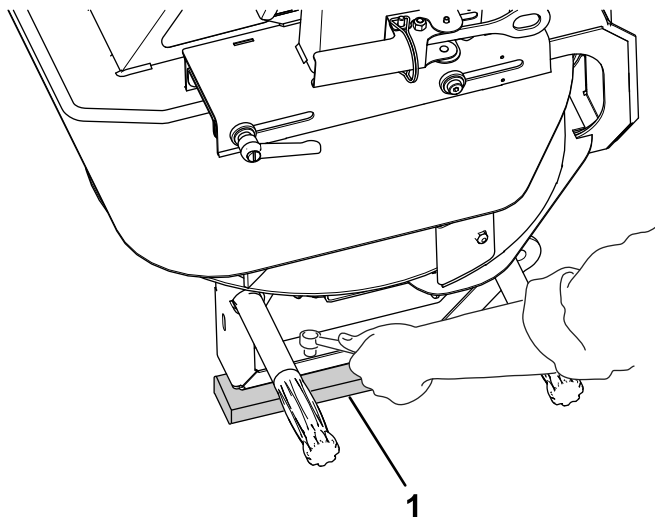

Figure 6
- Remove the 4 screws from the legs of the twin spinner. With the help of a partner, lift the twin spinner and remove the packing studs and packing foam (Figure 6).